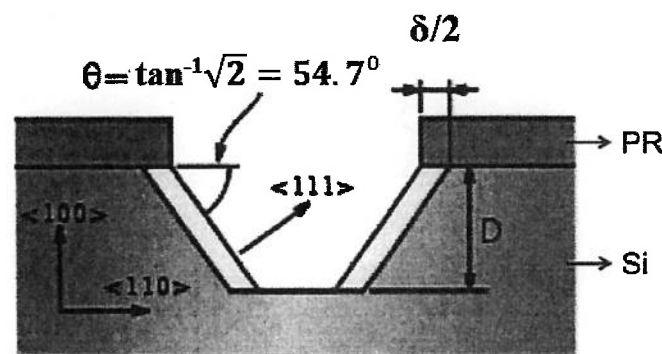

Figure 2
2. (a) Briefly discuss wet etching process on Si (100) according to Figure 2. In the figure, $\delta = 2 \mu\text{m}$ and $D = 350 \mu\text{m}$ when the etching process is stopped after 5 minutes. What are the etch rates in the $\langle 100 \rangle$ and $\langle 111 \rangle$ directions?